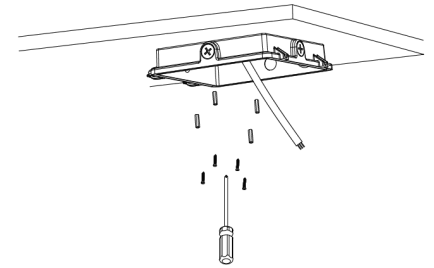

Figure 2-4
4. Fix the fixture housing cover on the ceiling. Figure 2-4